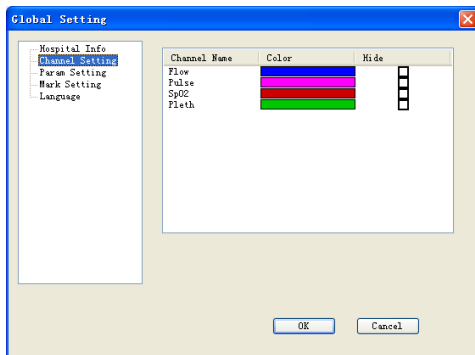

Figure 5.26
- 2) Set waveform color of each lead (click the color bar to change), display / hide state of waveform display in “Channel Setting” interface, as shown in Figure 5.26.